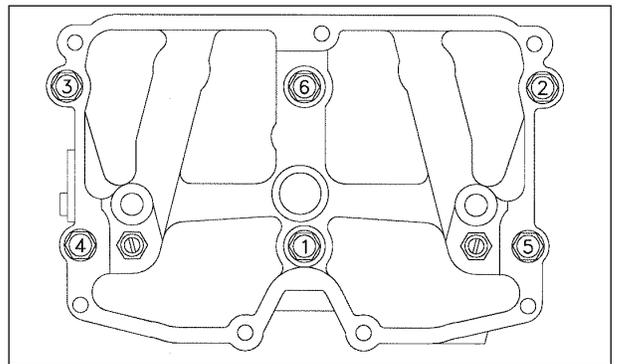

Figure 4-5
5. Install the nuts provided in the kit and tighten to 30 lbft (40 N*m) in sequence as shown in Figure 4-5 then re-torque to 60lbft (80M*m).